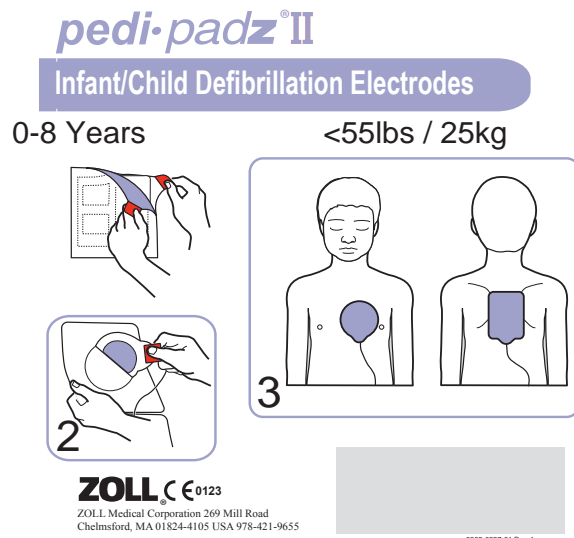

Figure 6: Placement of *pedi-padz II*
1. Tear open the electrode package and unfold the inner package to expose the electrodes. Place the electrodes on the victim according to the graphics on the package (see Figure 6).
2. Remove the round electrode from its backing material and place it on the victim's chest (as shown in Figure 6).
4. Roll the victim onto his/her chest, remove the square electrode from its backing and place it on the victim's back (as shown in Figure 6).